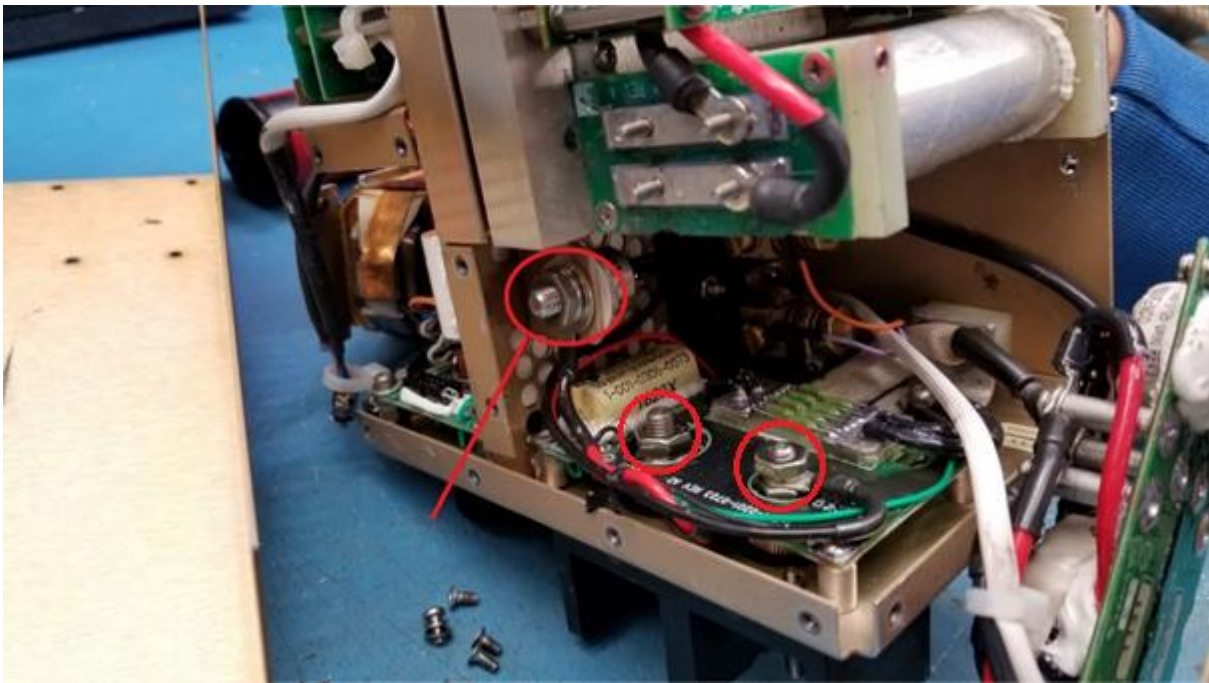

Figure 22
35. Reinstall (1) nut (35650-304), (1) nut (35650-3254), (1) washer (35338-138), (1) washer (35338-139), and (1) washer (15795-809). (Figure 22).